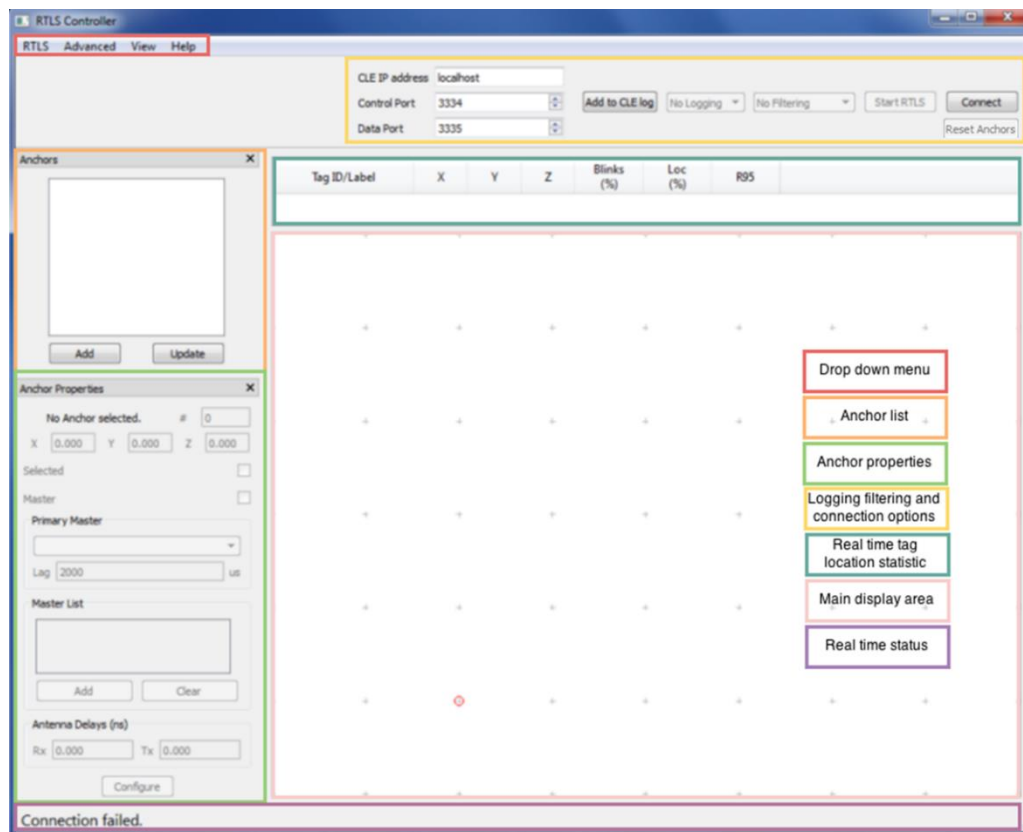

Figure 15: Control Client Main Screen Description
When the Control Client starts you will see a screen with the primary areas as shown in Figure 15.
- *CLE Configuration* – this opens “Logging Filtering and Connection Options” shown in Figure 15